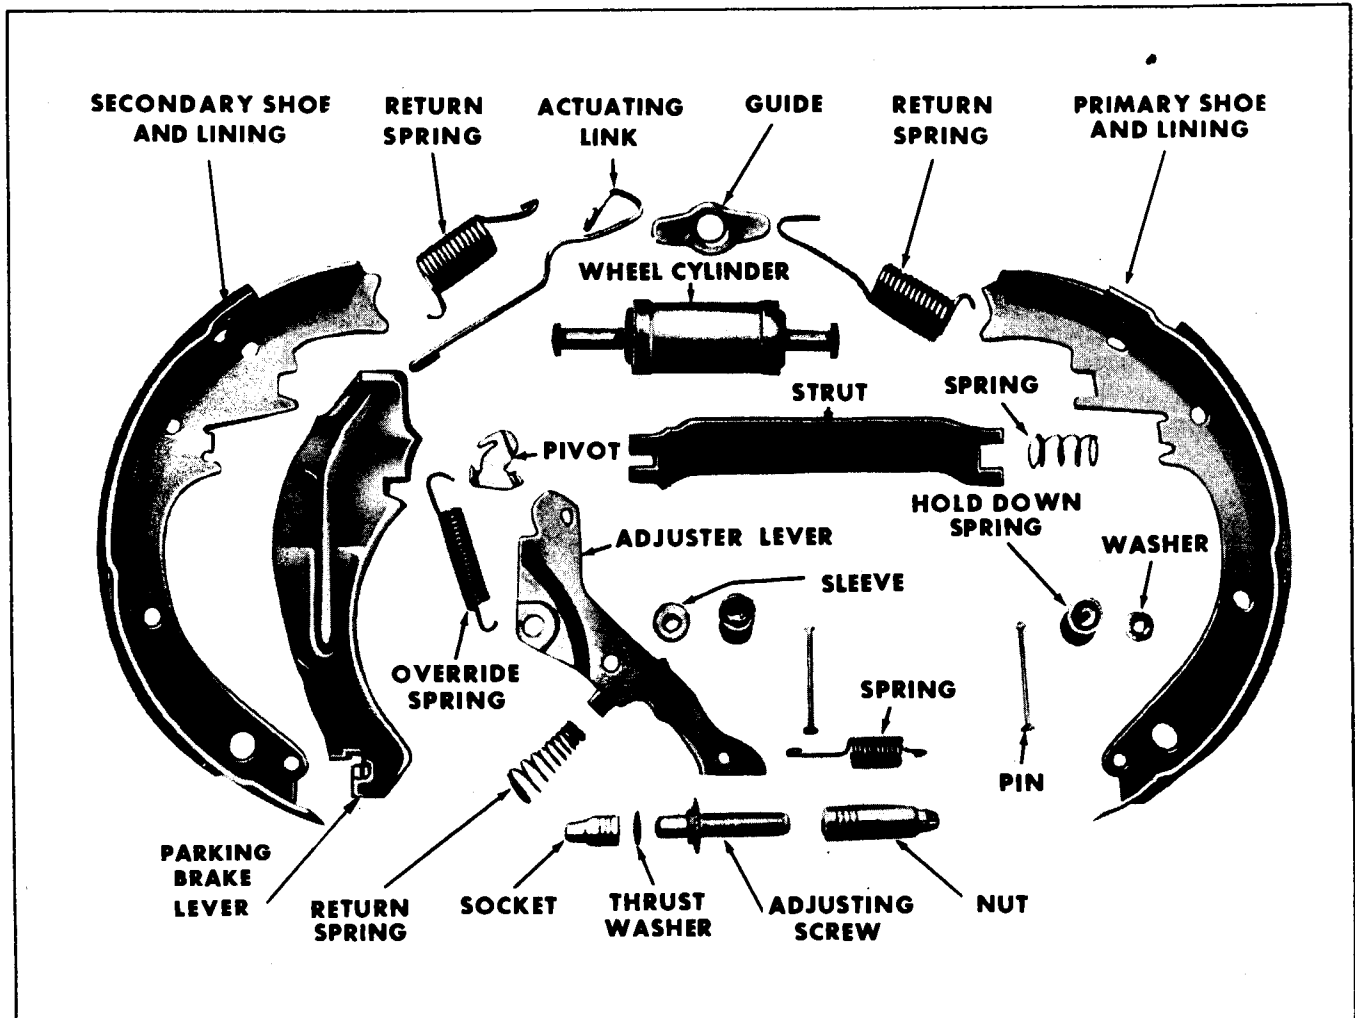

Fig. 5-8 Typical Self Adjusting Brake Assembly
4. Remove the brake shoe hold-down springs, pins and washers, and the adjuster lever and return spring (Fig. 5-8).
8. Remove the actuating links from the wheel cylinder boots only if necessary (Fig. 5-8).
8. Engage the adjuster lever with the override pivot, then position the adjuster lever and override spring assembly on the secondary shoe. Fasten with the hold down spring assembly (Fig. 5-8).